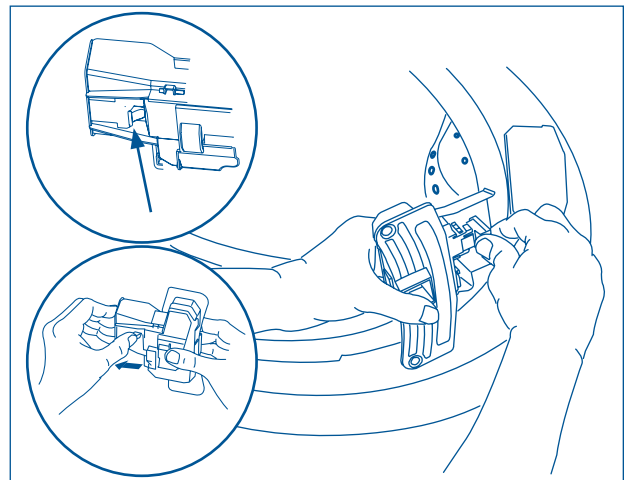

Figure 4-15.
3. Release the harness from the terminal with the small lever on back of the lock. Separate the harness from the lock, allowing the harness to lay outside the front panel. (See Figure 4-15)